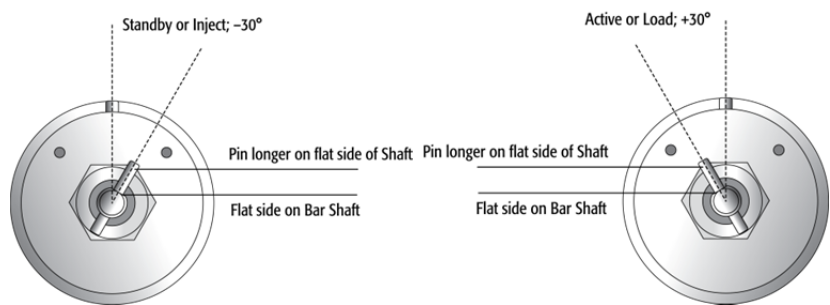

Figure 66. Valve Position 'Standby' and 'Active'
3. Check that the valve guide pin remains at its position; Observe the correct orientation of the guiding pin as shown below in Figure 66 and Figure 67 for the Valve Drive position;